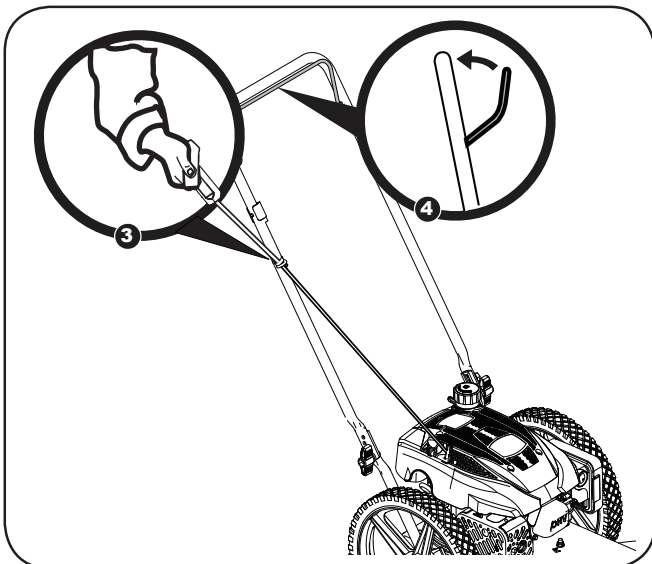

Figure 5
4. Press down the engine control lever to start the engine and the spindle assembly (Figure.5).